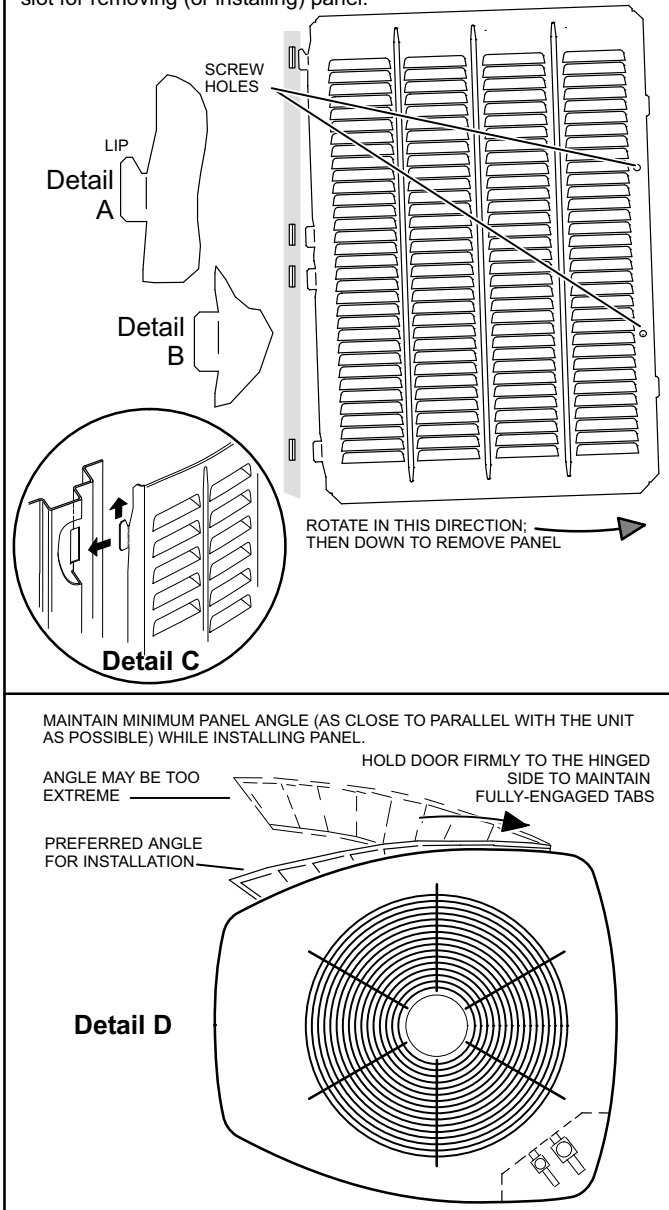

FIGURE 2
1 - Remove 2 screws, allowing the panel to swing open slightly (see figure 2).
2 - Hold the panel firmly throughout this procedure. Rotate bottom corner of panel away from hinge corner post until lower 3 tabs clear the slots (see figure 2, Detail B).
3 - Move panel down until lip of upper tab clears the top slot in corner post (see figure 2, Detail A).
**Position and Install Panel**—Position the panel almost parallel with the unit (figure 2, Detail D) with the “screw side” as close to the unit as possible. Then, in a continuous motion: Slightly rotate and guide the lip of top tab inward (figure 2, Details A and C); then upward into the top slot of the hinge corner post.